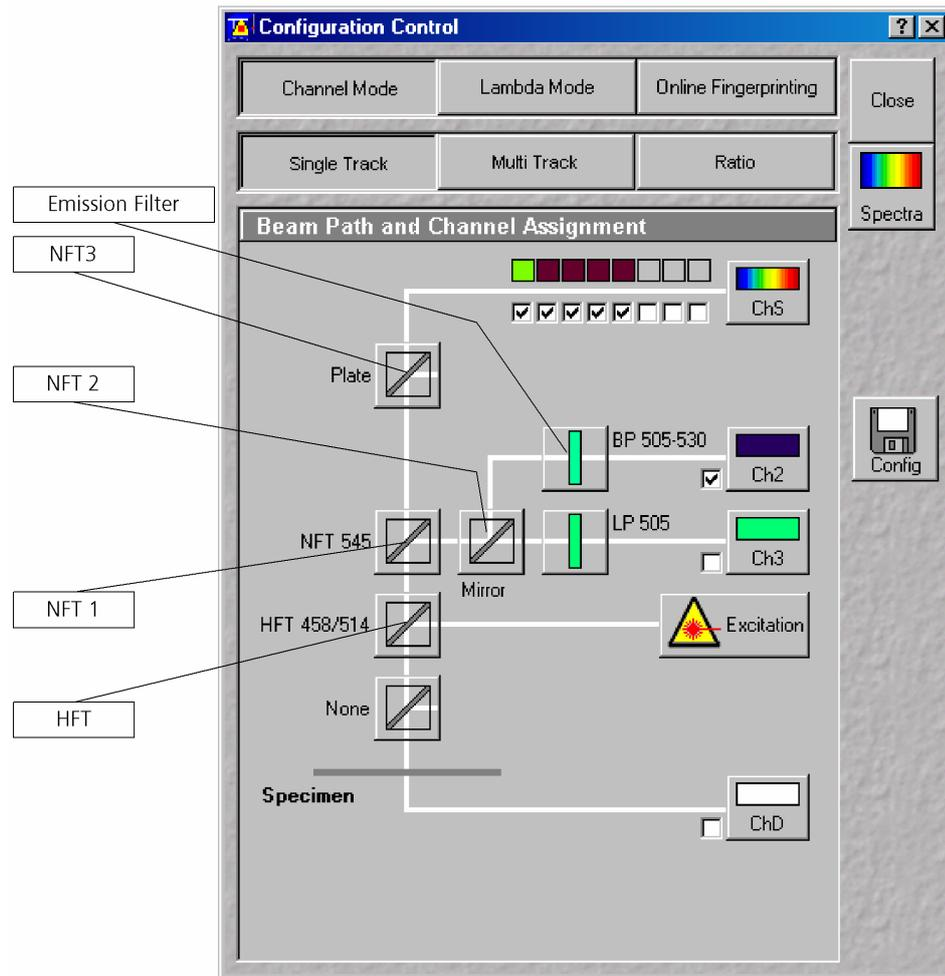

Fig. 4-39 Configuration Control window
The assignment of the numbered emission filters (1-4), NFT secondary dichroic beam splitters (1-3) and HFT main dichroic beam splitters in the **Beam Path and Channel Assignment** panel is shown in the **Configuration Control** window (Fig. 4-39). The numbers of the emission filters correspond to those of the channels lying behind (PMT photomultipliers).
- On the **Beam Path and Channel Assignment** panel, click on the HFT main dichroic beam splitters  (see Fig. 4-39).